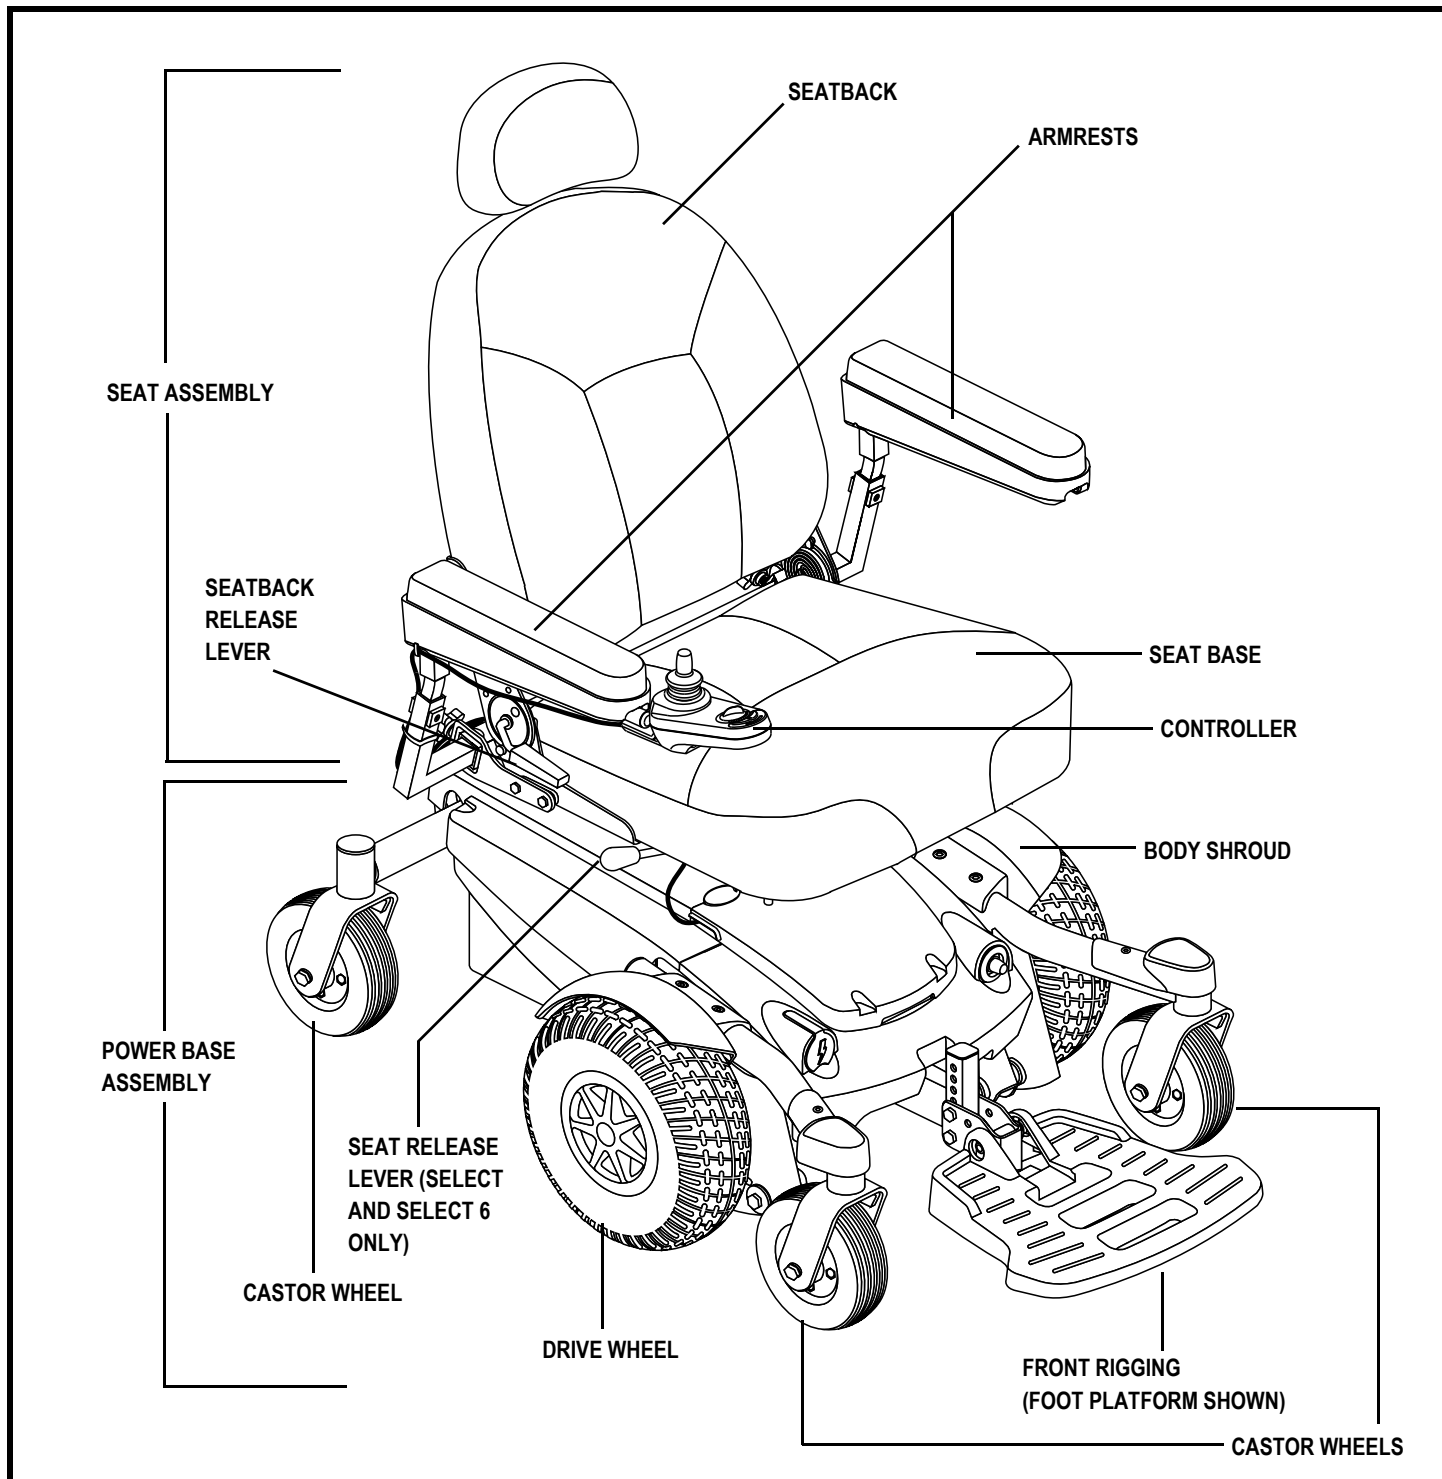

Figure 5. The Jazzy Select Series Power Chair (Jazzy Select 6 Shown)
The Jazzy Select Series Power Chair has two main assemblies: the seat assembly and the power base assembly. See figure 5. Typically, the seat assembly includes the armrests, seatback and seat base. The power base assembly includes two motor/brake assemblies, two drive wheels, two batteries and wiring harnesses. The Select power base will also include two rear castor wheels and two front anti-tip wheels, while the Select 6 and Select 6 with power seat will include four castor wheels. See figures 5, 6, 7, 8, 9 and 10.
1. Locate the lever on each side of the power base. See figure 5.